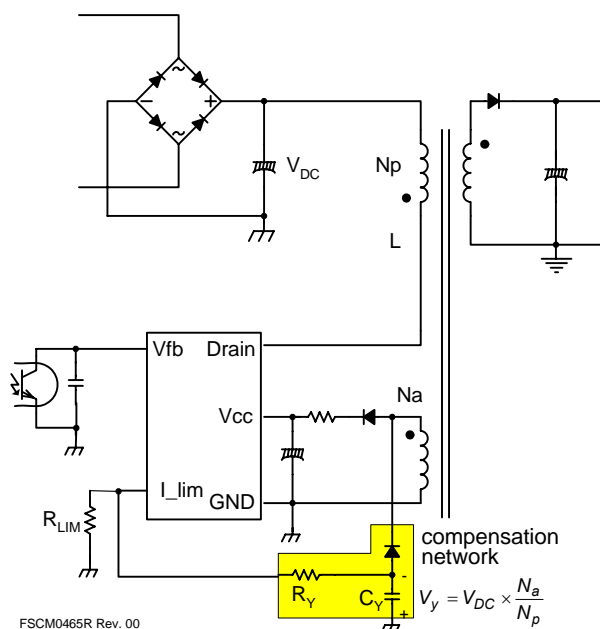

Figure 19. Constant power limit circuit
**2.2 Constant Power Limit Circuit:** Due to the circuit delay of FPS, the pulse-by-pulse limit current increases a little bit when the input voltage increases. This means unwanted excessive power is delivered to the secondary side. To compensate, the auxiliary power compensation network in Figure 19 can be used.  $R_{LIM}$  can adjust pulse-by-pulse current by absorbing internal current source ( $I_{FB}$ : typical value is 0.9mA), depending on the ratio between resistors. With the suggested compensation circuit, additional current from  $I_{FB}$  is absorbed more proportionally to the input voltage ( $V_{DC}$ ) and achieves constant power in wide input range. Choose  $R_{LIM}$  for proper current to the application, then check the pulse-by-pulse current difference between minimum and maximum input voltage. To eliminate the difference (to gain constant power),  $R_y$  can be calculated by: